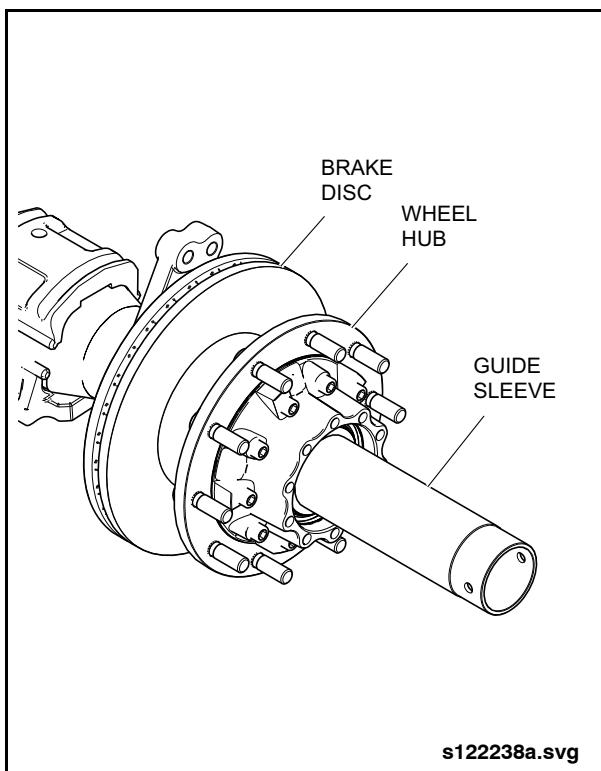

Fig. 2-141: Removing Wheel Hub & Brake Disc
5. Install threaded guide sleeve (Item 13 from special tools list) onto the axle stub and lubricate guide sleeve surface. See "Fig. 2-141: Removing Wheel Hub & Brake Disc" on page 119.